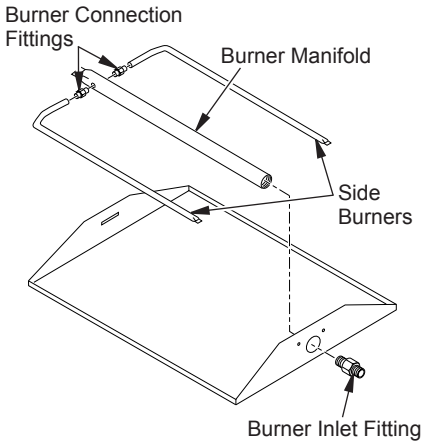

Figure 6 - Installing Burner
2. Place burner manifold in pan with threaded opening facing open knockout plug (see Figure 6, page 8). Make sure the burner ports face downward.
5. Press right and left side burners onto burner connection fittings. Burner porting should face downward (see Figure 6).